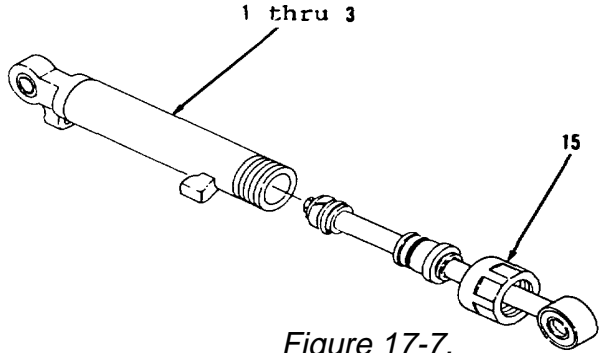
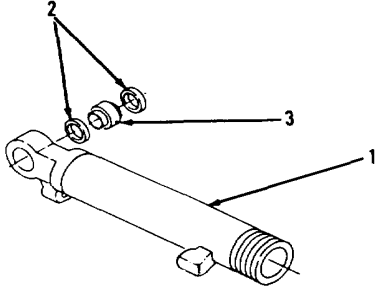
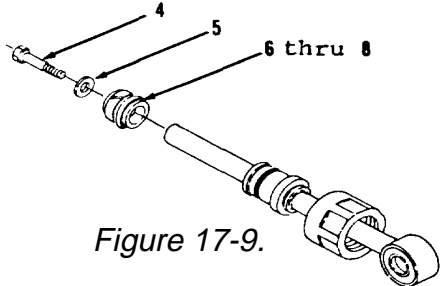
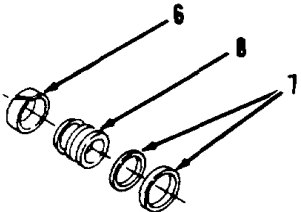

Figure 17-7.
Figure 17-8.
Figure 17-9.
Figure 17-10.
1. Using chain wrench, loosen crown (15, Figure 17-7).
2. Remove items 1 thru 3 as an assembly.
3. Using suitable bearing driver, remove two rings (2) and bearing (3) from cylinder (1, Figure 17-8). Discard bearing (3).
4. Remove bolt (4) and washer (5, Figure 17-9).
5. Remove items 6 thru 8 as an assembly.
6. Remove ring (6) and seal assembly (7) from piston (8, Figure 17-10). Discard seal assembly (7).
11. Install piston (4) on items 8 thru 6 as an assembly on items 18 thru 9 as an assembly (Figure 17-9).
12. Install washer (5) and bolt (4).
13. Using thread lubricant, lubricate threads of bolt (4) and tighten to 800 ft-lb torque.
14. Position cylinder (1, Figure 17-8) in vise or repair stand with oil holes facing downward.
18. Using clean grease, lubricate outside of head (9), inside of crown (15) and inside of cylinder (1, Figure 17-7).
19. Install cylinder (1).
20. Install items 3 thru 1 as an assembly.